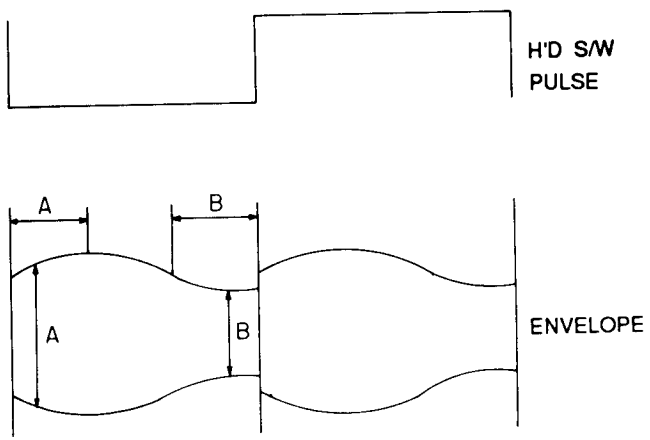

Fig. 11. Adjustment Points
- 4. If the section A in Fig. 11 does not meet the specification, adjust the S-guide roller up or down.
- 5. If the section B in Fig. 11 does not meet the specification, adjust T-guide roller up or down.